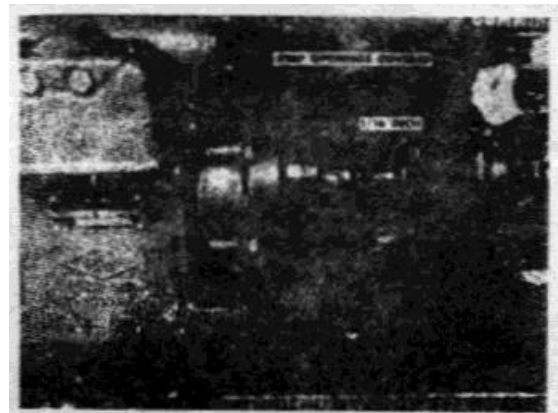
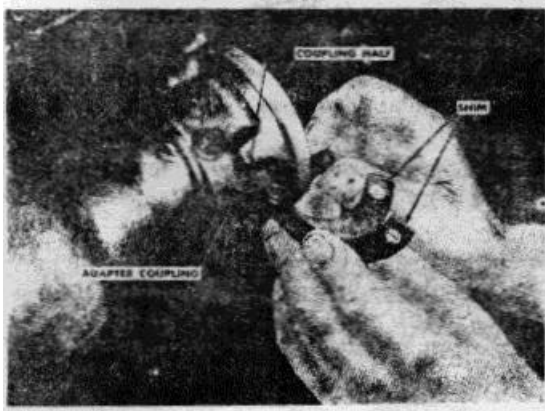

Figure 2-5. Coupling clearance
Figure 2-6. Adding shims to coupling
4. Mount the fuel pump and bracket to the cylinder block and measure the clearance between the coupling halves. Fig. 2-5. This clearance should be 1/16 inch. Clearance can be adjusted by adding or removing shims. Fig. 2-6.